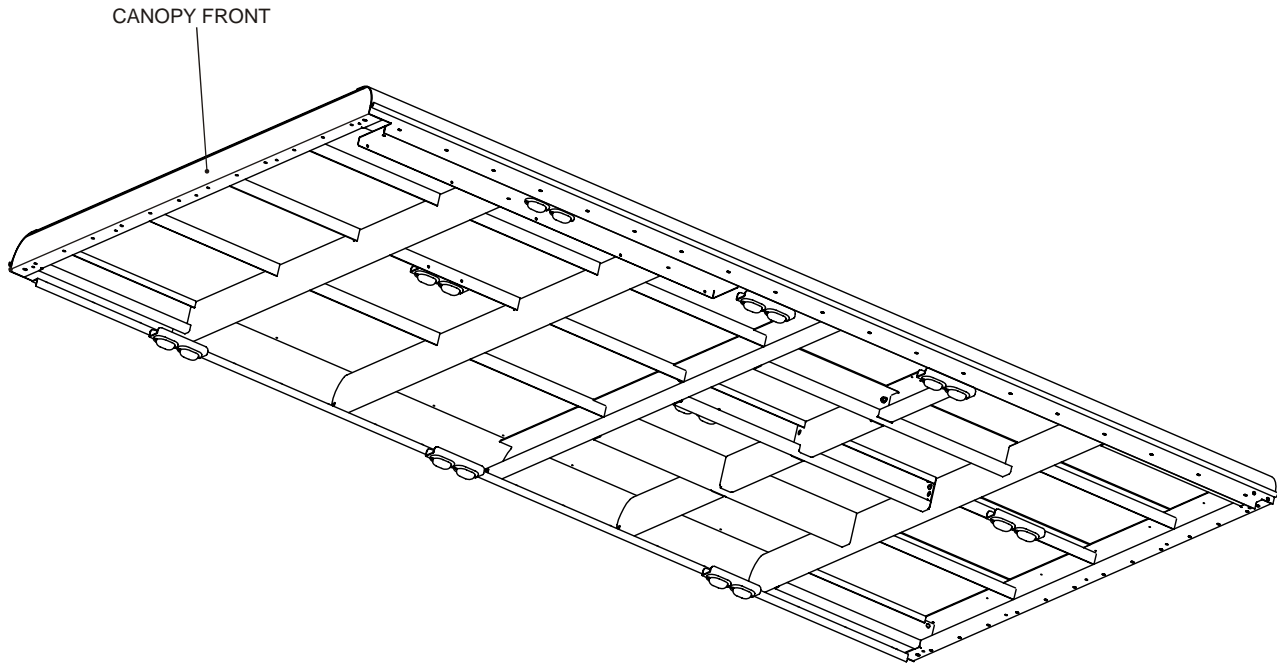

Figure 2 Cargo Area Lighting Layout
2. Lighting is provided in the cargo area by nine white and nine blue LED lights (Figure 2). Lights are mounted in brackets attached to the interior roof assembly. Each bracket houses one white and one blue LED light fitting. A three-position switch, fitted on the side of the BORG/COND stowage module, enables either white or blue LED lights to be selected for loading/unloading operations during normal conditions. An additional crash action override switch is mounted on the headboard above the missile stowage on the passenger's side. This switch allows for the three blue LED lights on the passenger's side to be switched on during either blackout or reduced lighting conditions. These three light units are sited above the Missile Module, Stand Stowage and Sight Stowage.